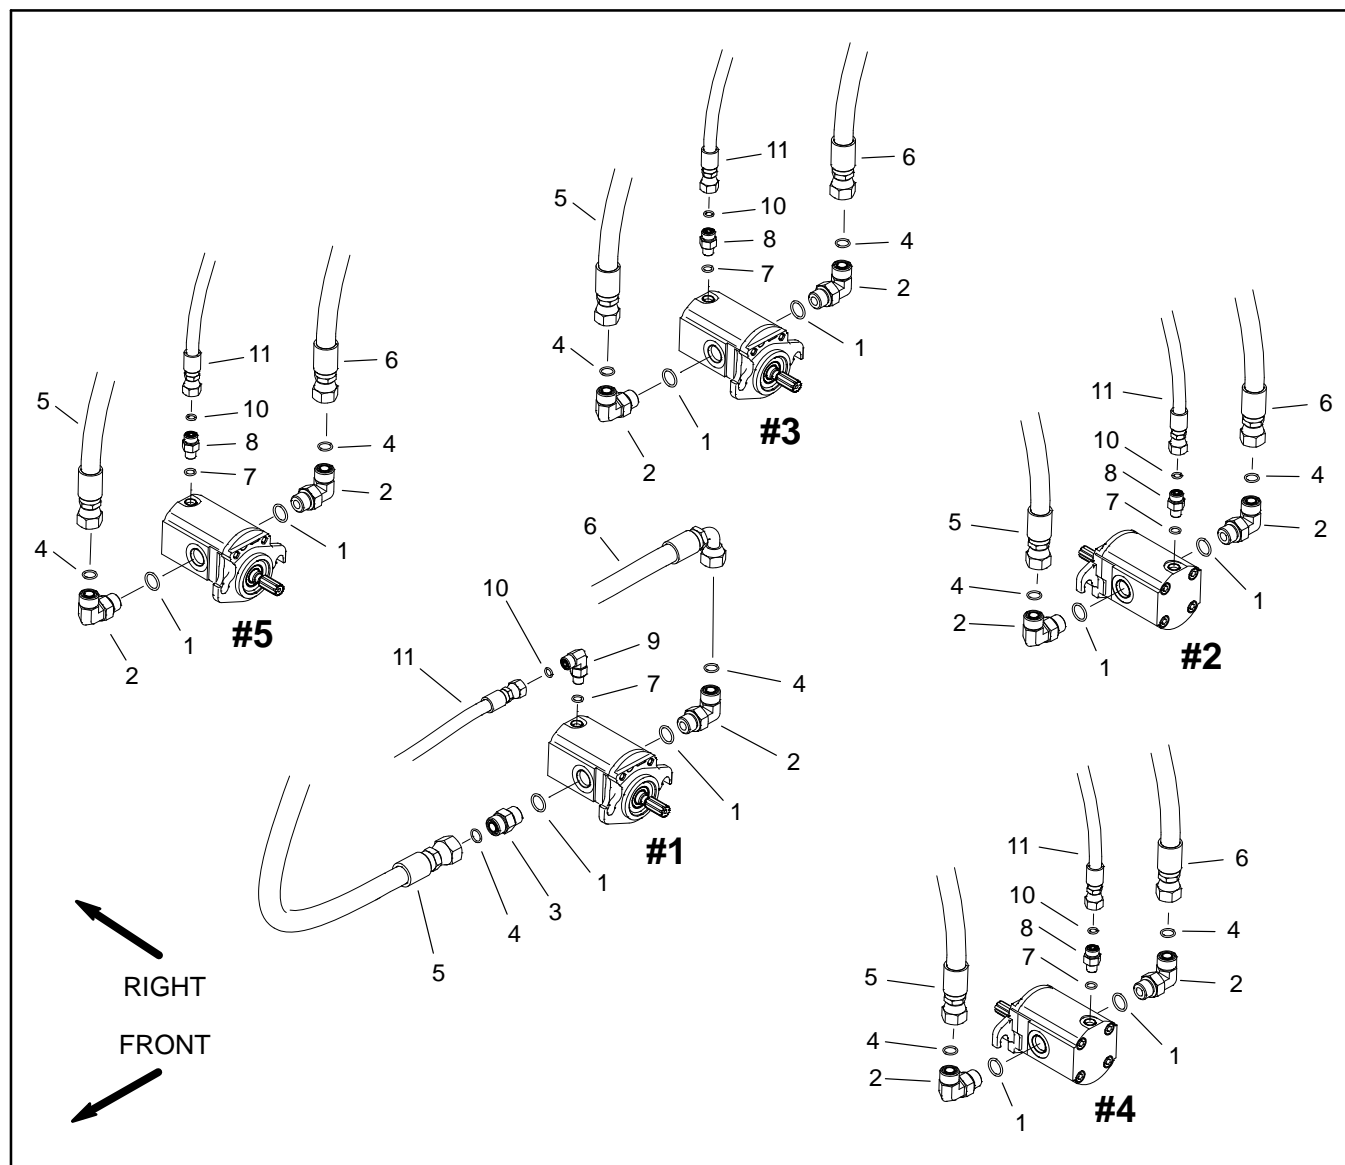

Figure 60
3. Label all hydraulic connections for assembly purposes (Fig. 60). Thoroughly clean hydraulic connections prior to loosening hydraulic lines from reel motor to prevent hydraulic system contamination.
6. Lubricate and install new O-rings on motor fittings. Correctly connect hydraulic hoses to the motor using labels placed during removal procedure (Fig. 60).